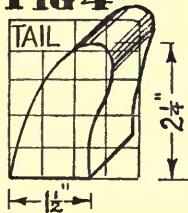

FIG 7
ASSEMBLY.—(1) Slide handrail over to centre of rectangular-shaped pieces, drill $\frac{3}{16}$ " holes and screw in position (Fig. 6). (2) Screw seat battens on underside of seats (Fig. 7). (3) Screw the floor slats to the bottom rails and the footboard across the slats (Fig. 2). (4) Slip ends of rectangular pieces of tube through holes in seats and at correct height screw in place (Figs. 2 and 8). (5) Insert ends of these tubes into bottom rails flush with bottom side, drill and screw as before (Fig. 9). (6) Spring both rockers in position and screw into seat rails and up into bottom rails (Fig. 9). (7) Screw on tail pieces.